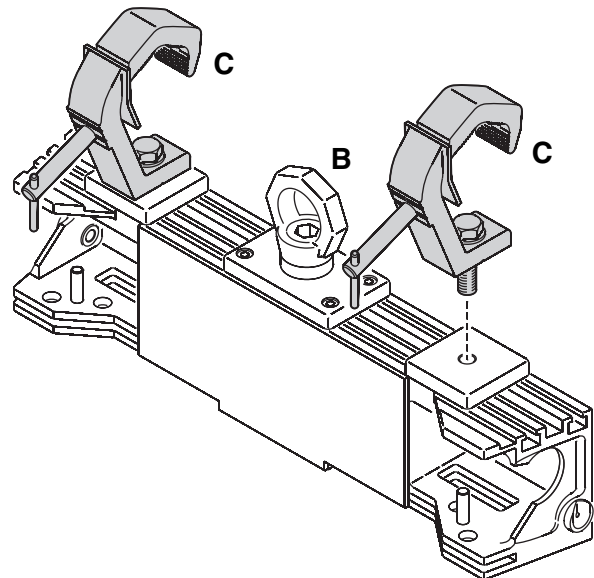

Figure 3: Rigging clamps
If suspending single independent columns of panels one panel wide from a truss, see Figure 3:
1. See Figure 3. Obtain rigging clamps **C** that are approved for the total weight they will support. Fasten two clamps securely to each Header using M12 fasteners that are approved for the total weight they will support.